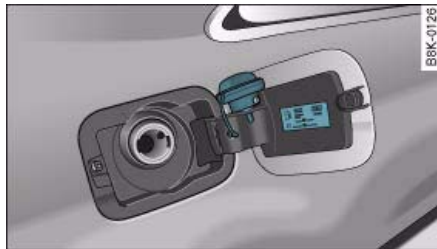

Fig. 219 Fuel tank flap with tank cap attached
- Hook the cap onto the open flap ⇒ fig. 219.